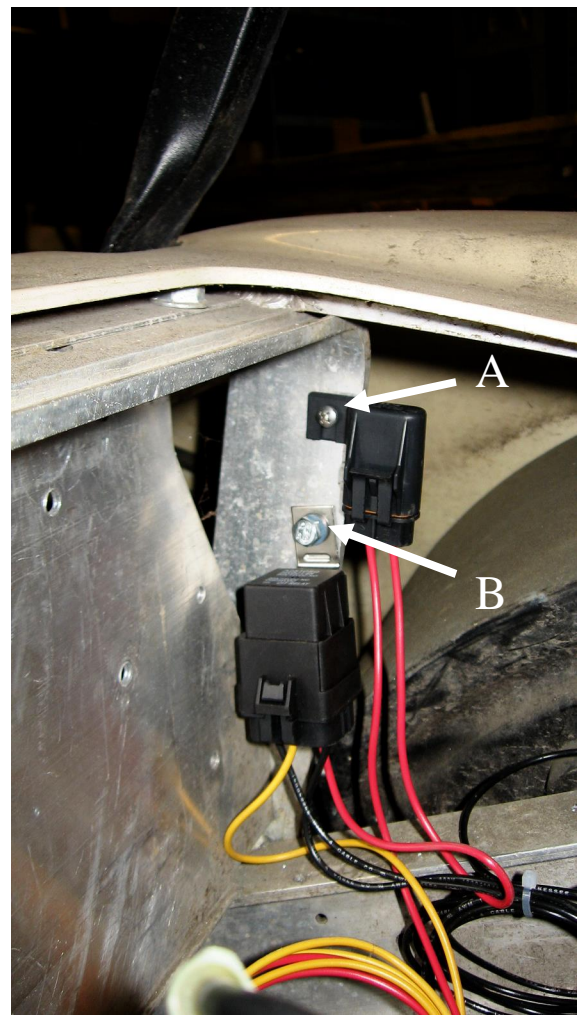

Figure 20
1. Drill a 4mm hole in an unused location on the frame for the Walkaway fuse (**Figure 20-A**).
2. Drill a 6mm hole in an unused location on the frame for the Walkaway relay (**Figure 20-B**).